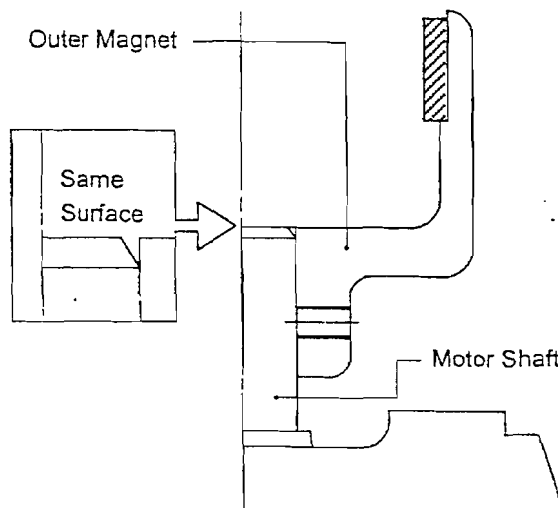

Fig.3
1. Set the outer magnet on the motor shaft and tighten the screws. The dimensions should be such that the surfaces of the outer magnet and motor shaft are in alignment, as shown in the diagram below (Fig. 3).